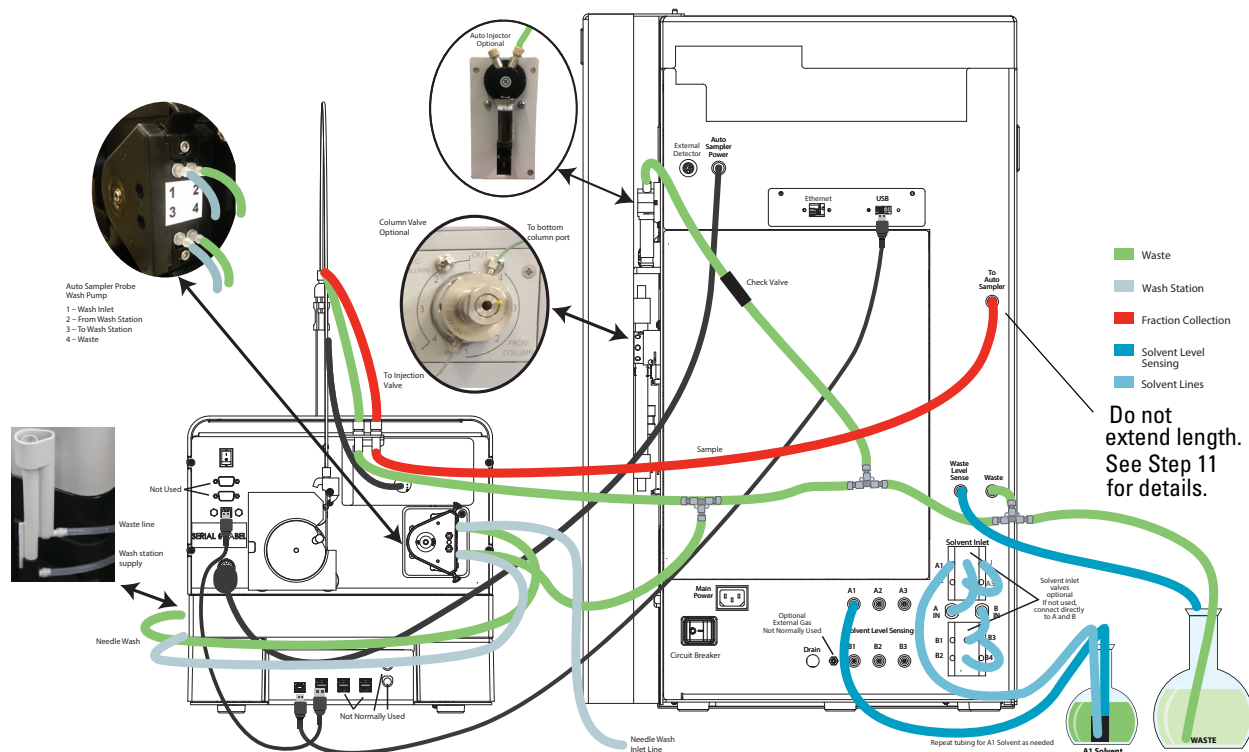

Figure 2-22 Tubing diagram of the AutoSampler connected to the ACCQPrep (See Appendix A, Figure A-1 for a larger diagram)
12. Route the “To Waste” tubing to a suitable waste container or tee to either the Wash Waste Line from the AutoSampler Module (from step 8 above or seen in Figure 2-22) and/or the ACCQPrep waste line and injection valve waste line with the supplied tee(s).
- Check the USB cable connection from ACCQPrep to the square USB connector along the rear, bottom edge of the AutoSampler (Figure 2-22).